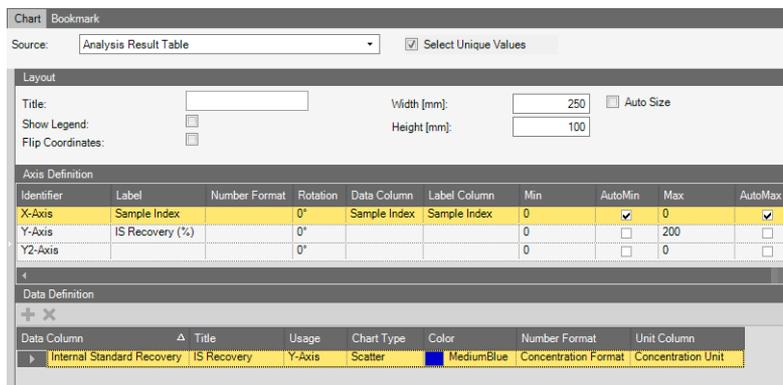
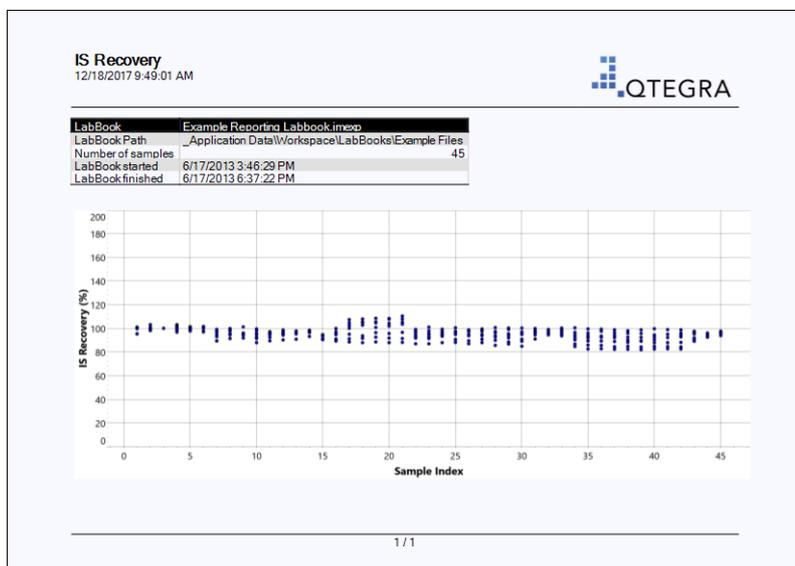

Figure 8-59. Example definition of an IS Recovery Report Template
Figure 8-60. Example for an Internal Standard Recovery chart
- The examples in Figure 8-59 and Figure 8-60 show the definition and resulting display from the supplied 'IS_Recoveries' Report Template.